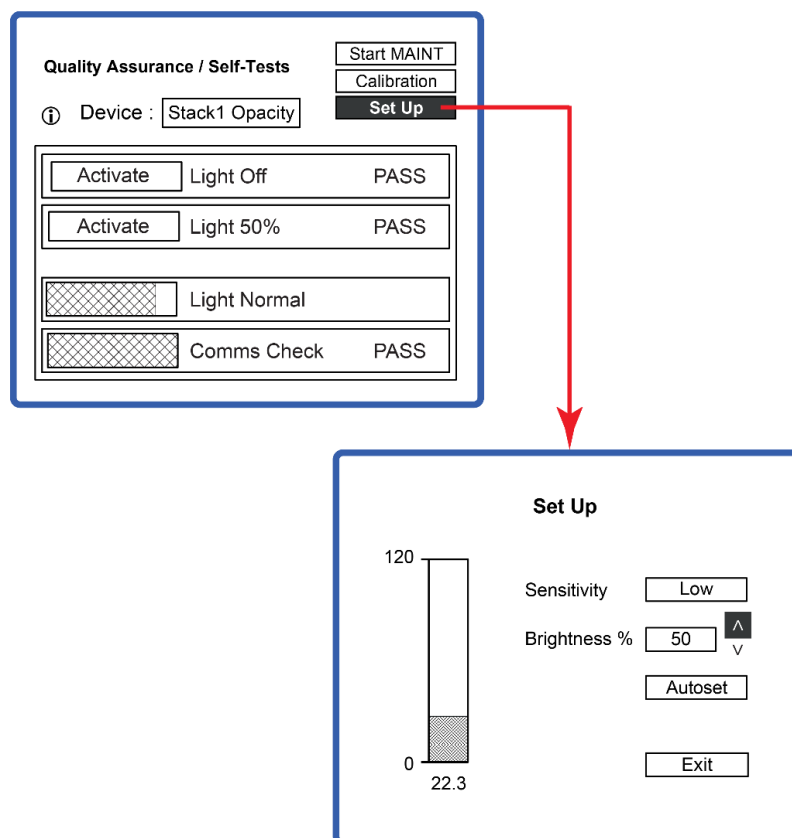

Figure 21: Adjusting brightness and sensitivity.
1. Referring to **Figure 21** below, select the **QA/Self Tests** icon to display this screen.
1. Referring to **Figure 21** below, select the **Autoset** button and press ENTER.
1. Referring to **Figure 21** above, set **Sensitivity = Low** and **Brightness % = 50**.